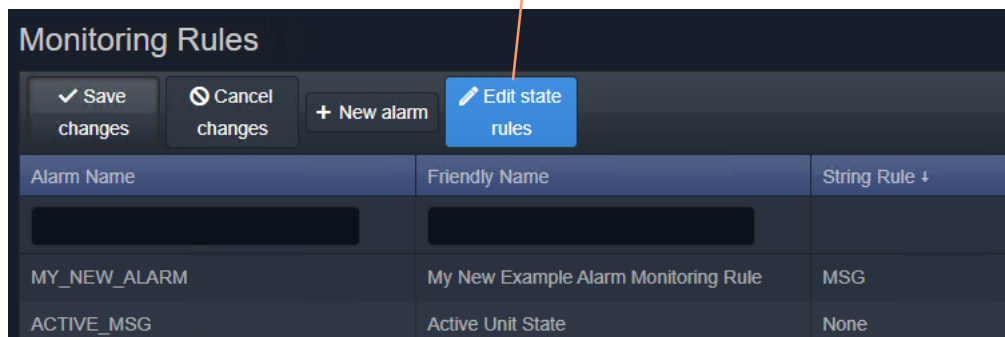
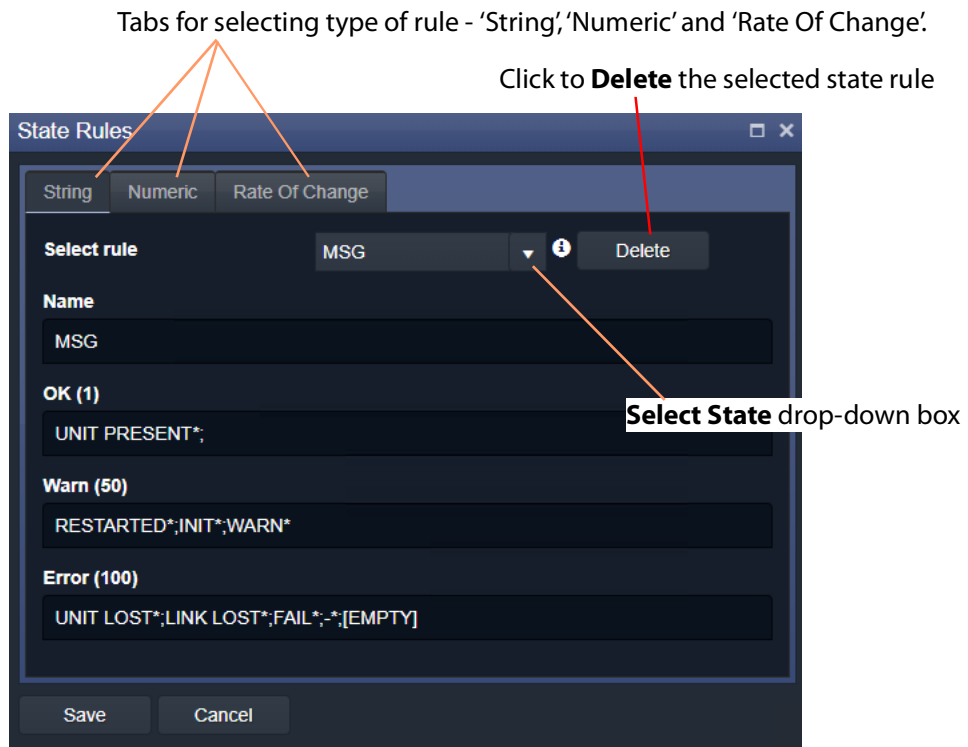

Figure 76: Edit State Rules Button
Figure 77: State Rules Dialog
- 1 Click **Edit State Rules** in the **Monitoring Rules** configuration screen, see Figure 76. The **State Rules** dialog is shown, see Figure 77.